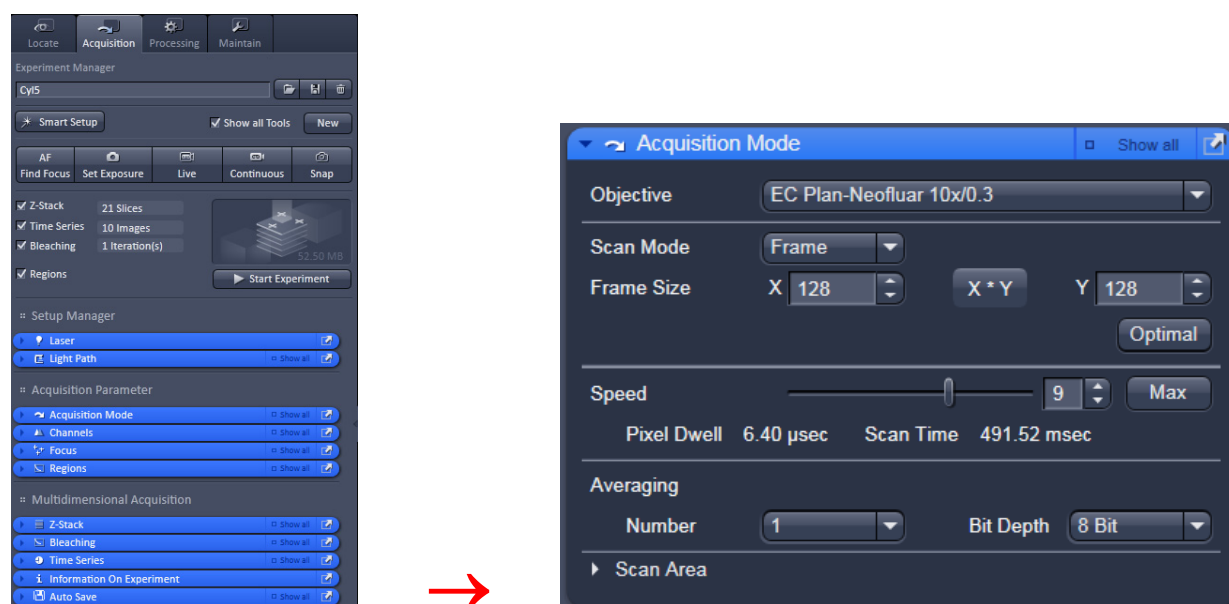

Fig. 19 Acquisition Mode tool
- Select the **Acquisition Mode** tool from the **Left Tool Area** (Fig. 19).
- Use the **Scan Speed** slider in the **Acquisition Mode** tool (Fig. 19) to adjust the scan speed.
- Select the dynamic range 8 or 12 or 16 Bit (per pixel) in the **Bit Depth** pull-down in the **Acquisition Mode** tool (Fig. 19).